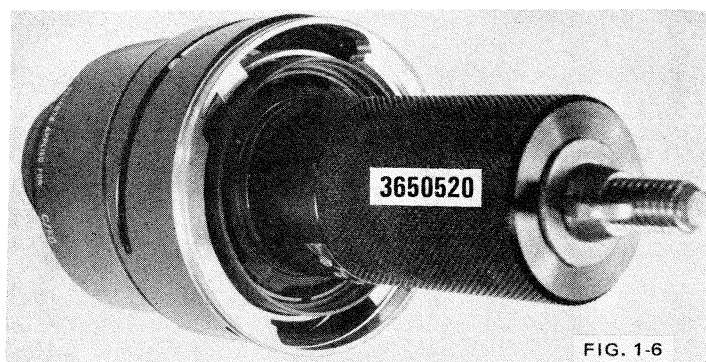

FIG. 1-6
- b) Use Tool No. 3650520 to remove second lens group. Place the tool down over the rim of the lens group, tighten the wing nut and remove. Fig. 1-6.